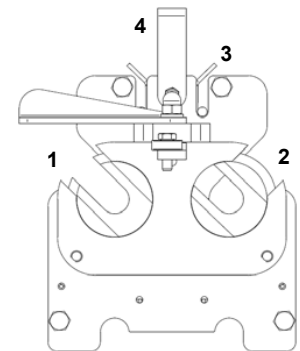

Fig. 6.2.3
- To insert the blade roller, turn the blade cartridge knob so that the slot opens (position “1” Fig. 6.2.3 – the knob will click slightly).
- Turn the cartridge knob in the opposite direction to lock the roller (position “2” Fig. 6.2.3 – the knob will click slightly).
- Move the cartridge using the handle (Ref. 4 Fig. 6.2.3).